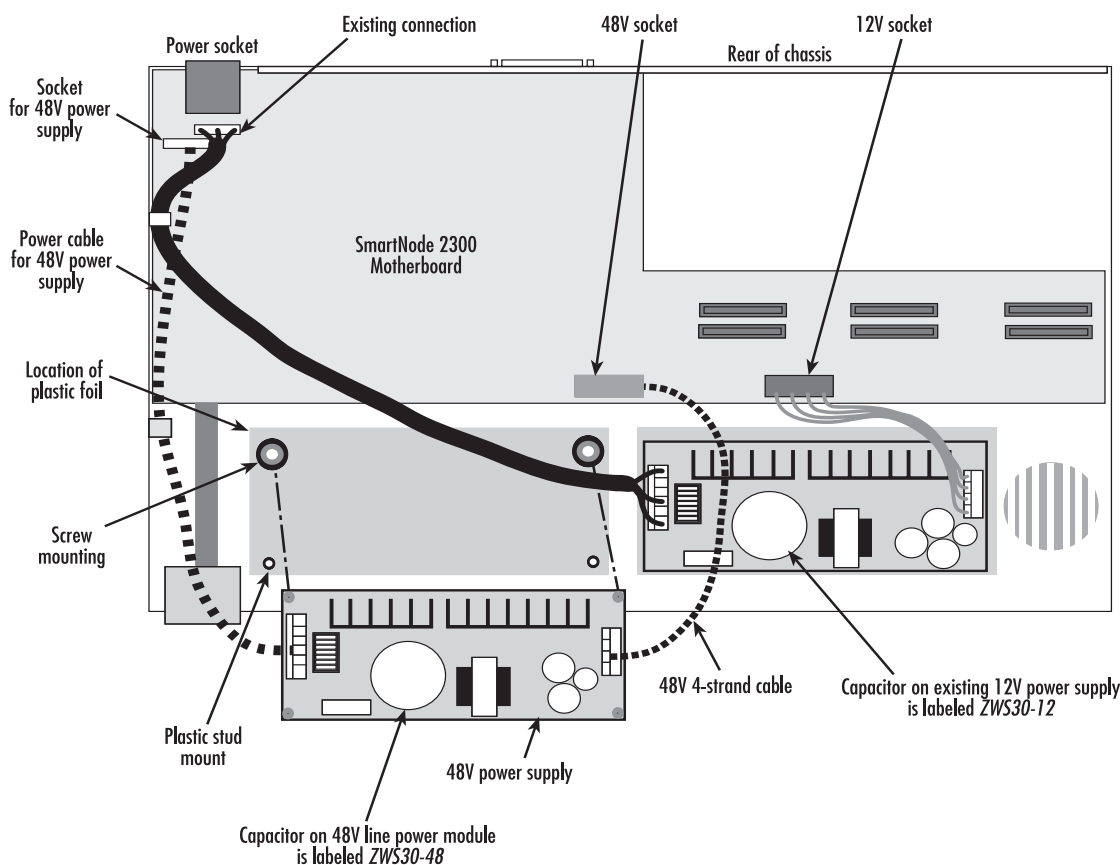
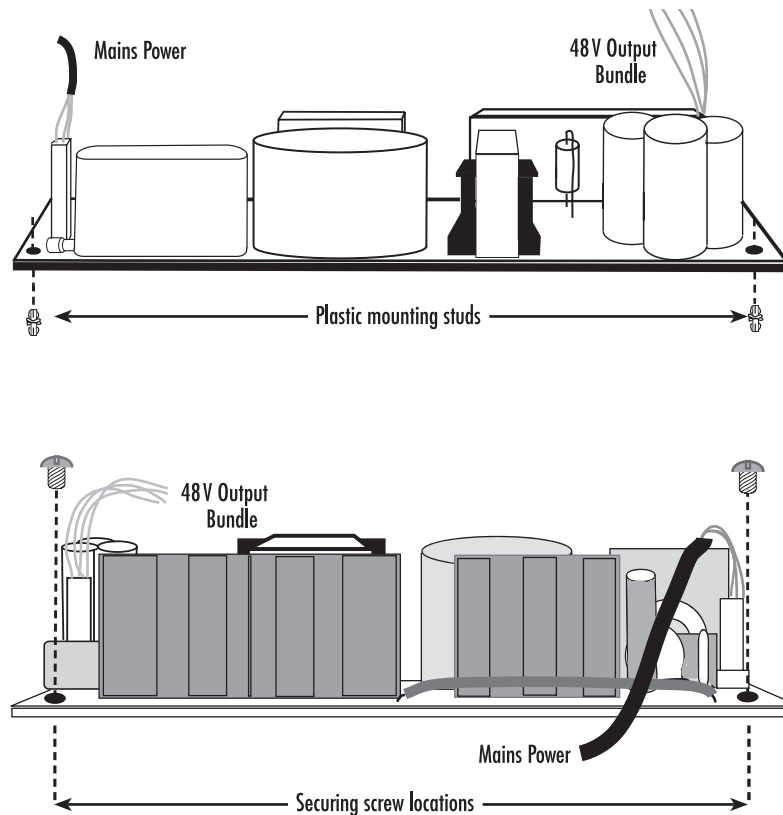
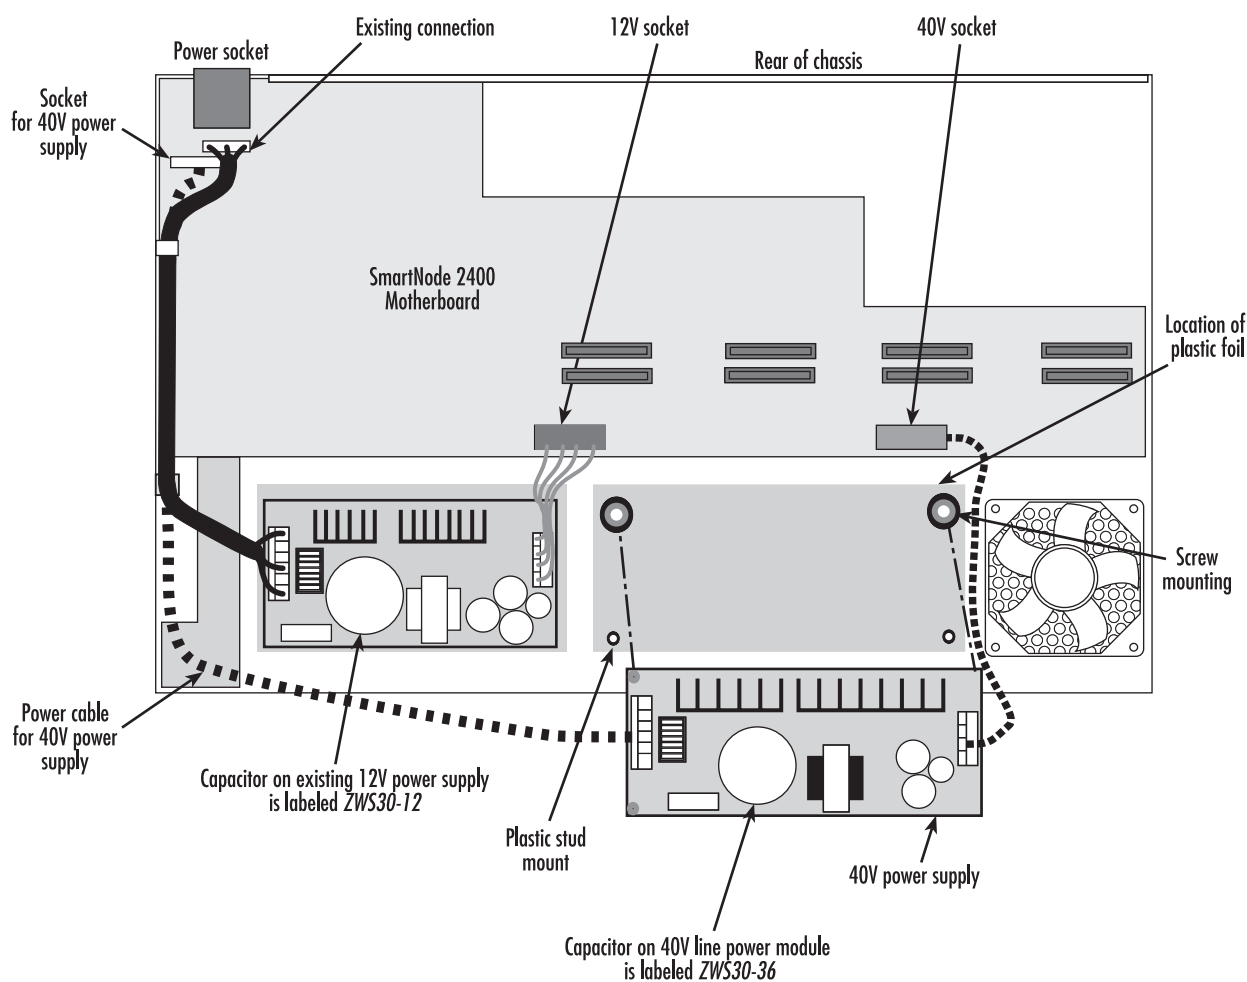

Figure 80. Internal 48V line power module and 12V power supply module locations in SmartNode 2300
Figure 81. Fixing points: internal 48V (or 40V) line power module
Figure 82. Internal 40V line power module and 12V power supply module locations in SmartNode 2400
The 48V line power module is mounted inside the SmartNode 2300, next to the existing 12V power supply. You should not move the 12V power supply module from its installed location (see figure 80 for 12V power supply location).
Note The 12V and the 48V line power modules are very similar in appearance. The 48V module is labeled *ZWS30-48* on the large electrolytic capacitor (see figure 80).
If you look at the exposed SN2300 chassis, you will see the motherboard and the 12V power module that is already installed (see figure 80). (The figure shows the general arrangement of the chassis-mounted components only, with little or no component details. The IC-4BRV card is omitted for clarity). To the left of the existing 12V power module are two screw holes tapped into dimples, and two smaller holes. These four holes are for mounting the 48V line power module (see figure 81).
3. Insert the plastic mounting studs into the line power module, one into each of the two corner holes that are on the opposite side to the finned heat sinks (see figure 80 on page 126). Insert them from below.
5. From above, insert the screws into the module, one into each of the two holes at the corners of the heat-sink side. Screw them home so that the screws pass through the foil and secure the module onto the SmartNode chassis dimples. See the lower picture in figure 81 on page 127.
6. First insert the white 4-lead 48V supply cable in the line power module's socket. Then connect it to the 48V socket on the motherboard. The plug is polarized so you cannot insert the sockets the wrong way round. See figure 81 on page 127.
The 40V line power module is mounted inside the SmartNode 2400, next to the existing 12V power supply. You should not move the 12V power supply module from its installed location (see figure 82 for 12V power supply location).
Note The 12V and the 40V line power modules are very similar in appearance. The 40V module is labeled ZWS30-36 on the large electrolytic capacitor (see figure 82).
If you look at the exposed SN2400 chassis, you will see the motherboard and the 12V power module that is already installed (see figure 82). (The figure shows the general arrangement of the chassis-mounted components only, with little or no component details.). To the right of the existing 12V power module are two screw holes tapped into dimples, and two smaller holes. These four holes are for mounting the 40V line power module (see figure 81 on page 127).
3. Insert the plastic mounting studs into the line power module, one into each of the two corner holes that are on the opposite side to the finned heat sinks (see figure 82 on page 128). Insert them from below.
6. First insert the white 4-lead 40V supply cable in the line power module's socket. Then connect it to the 40V socket on the motherboard. The plug is polarized so you cannot insert the sockets the wrong way round. See figure 81 on page 127.